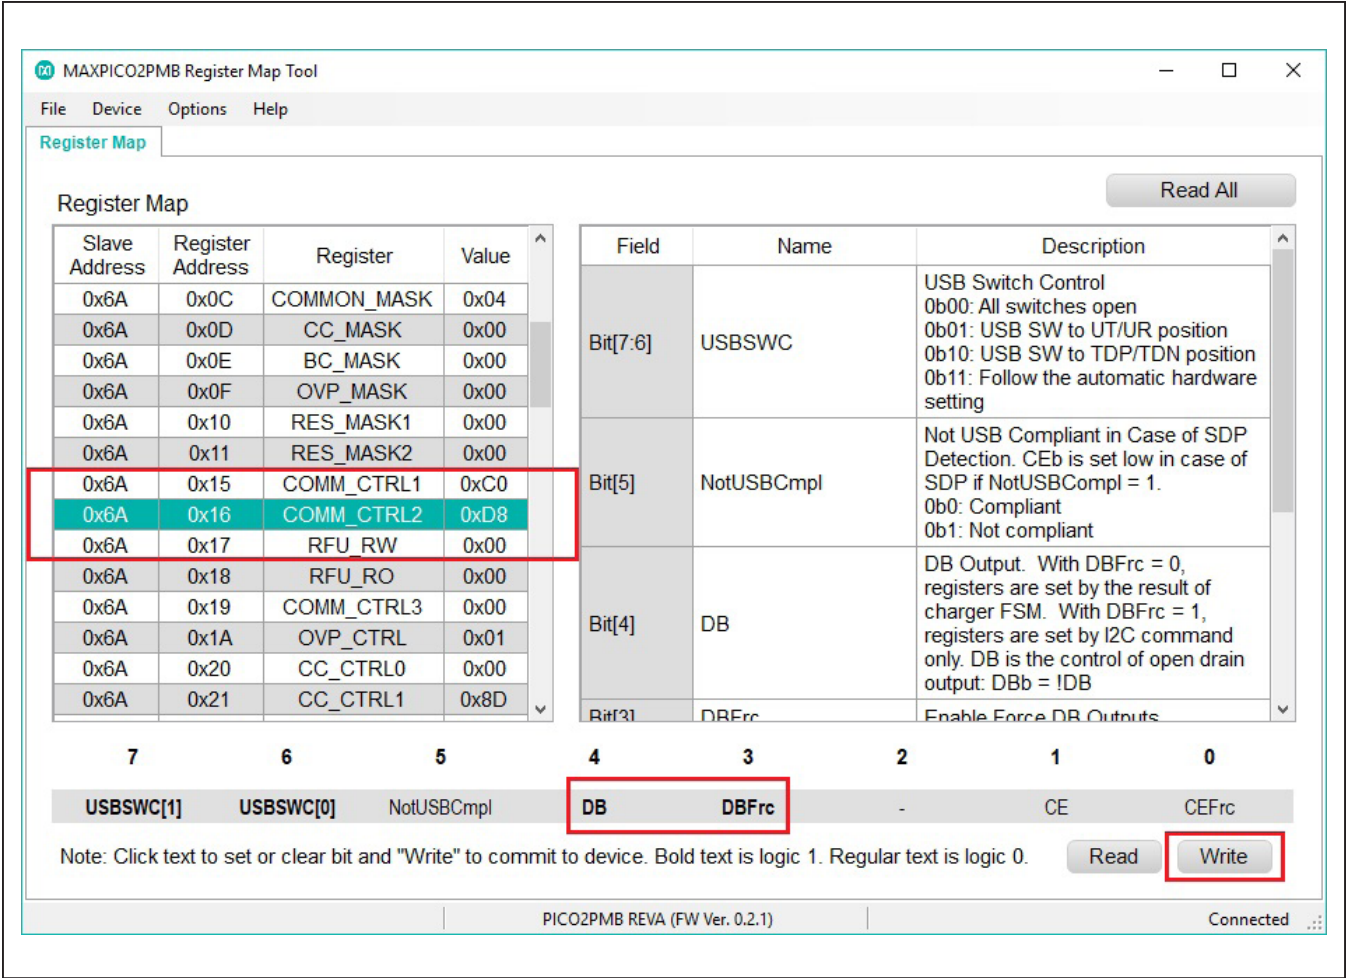

Figure 10. An Example of Setting Bits with the MAX20342 Regmap
3) Go to Register Address 0x16 COMM_CTRL2 and locate bit 3 (Enable Force DB Output). Click on the **DBFrc** bit so it becomes bold and click **Write** to set this bit. Locate bit 4 (DB Output) and set this bit. LED D6 of the MAX20342EVKIT turns red (see Figure 10).